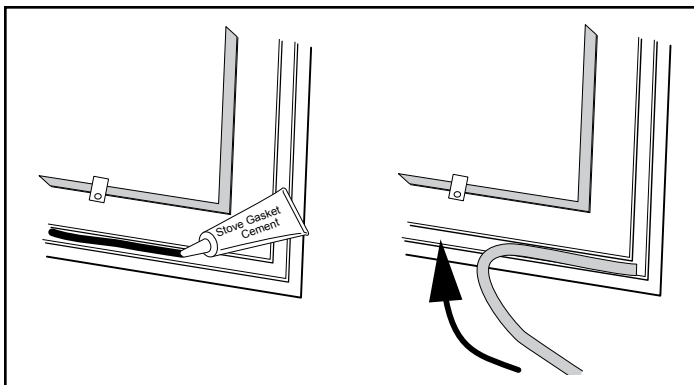

Figure 6.5 - Lay a bead of gasket silicone or cement then press gasket in place.
5. Lay an unbroken 1/8" (3 mm) bead of silicone or cement in the newly-cleaned channel, Figure 6.5.
6. Starting at one end, press the gasket into the channel, Figure 6.5. Ensure a good joint where the gasket meets before trimming any excess. Do not overlap the gasket ends or leave ends with ragged edges.